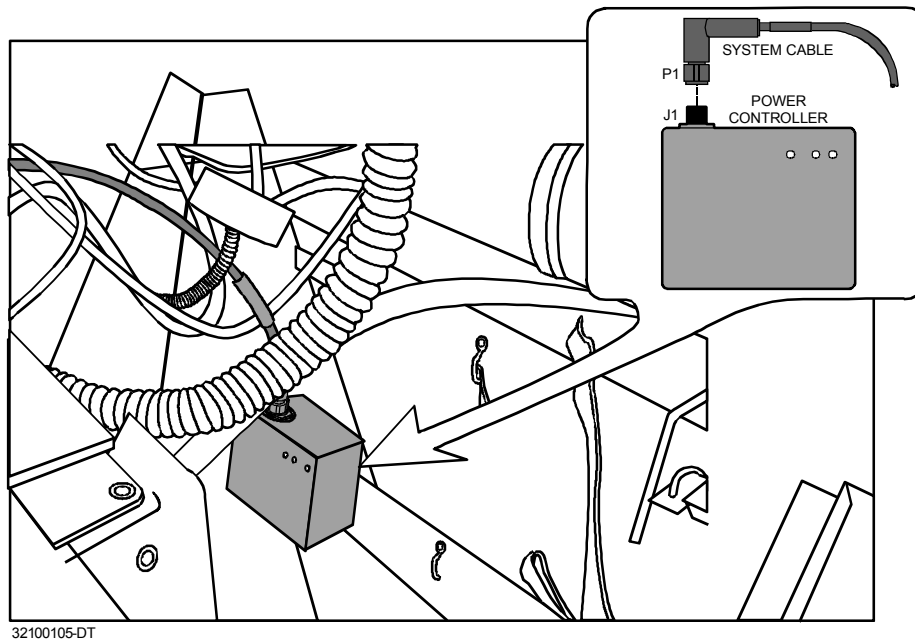

Figure 2-29. Power Controller.
- m. Route segment (P1-violet sleeve) to the Power Controller, and connect (P1) to (J1) of the Power Controller. (See Figure 2-29.)